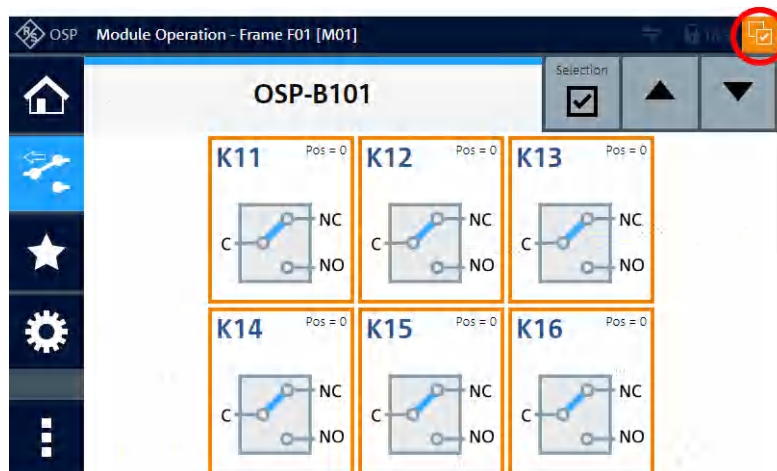

Figure 5-25: All items (here: relays) selected in a module's operation dialog
- If this button was disabled when you clicked "Select All", it remains disabled, as in Figure 5-25